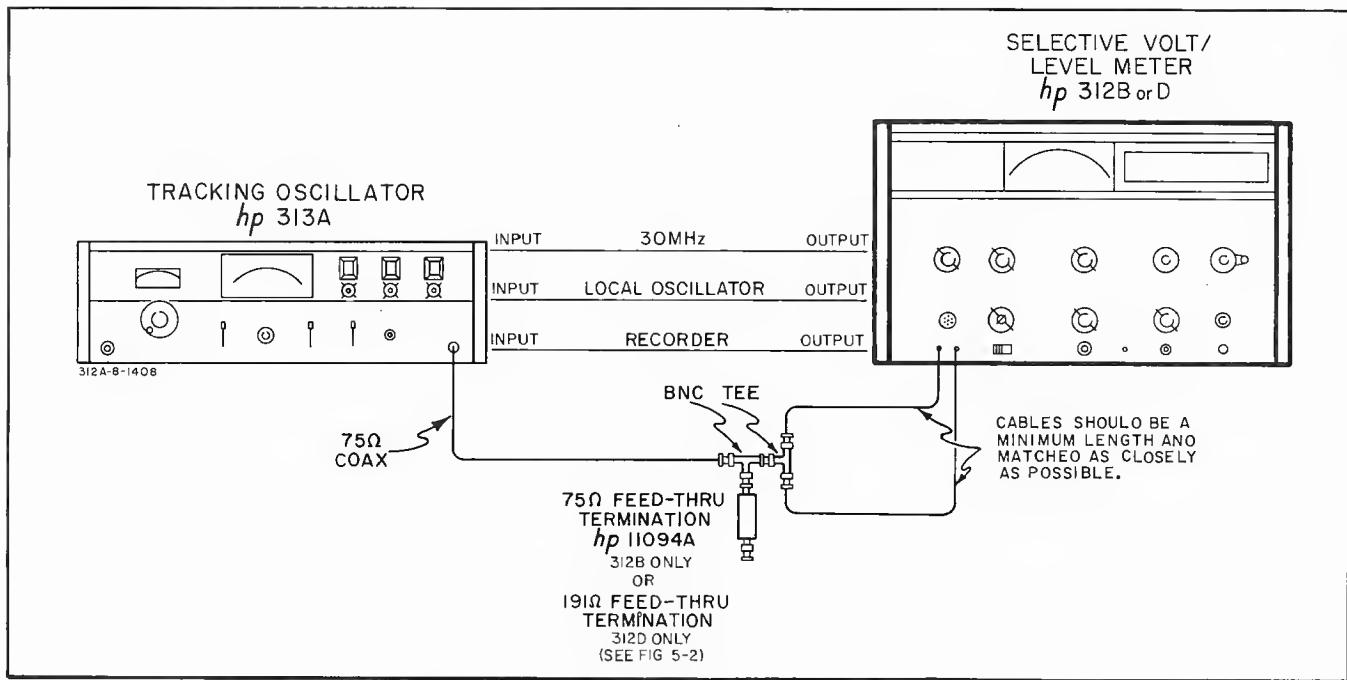

Figure 5-6. Common Mode Rejection — 312B/D.
a. Connect the 312B/D and 313A as shown in Figure 5-6. On the 312D, use WECO-to-BNC adapters (-hp- Part No. 1250-0591) and the 191 ohm feedthru termination shown in Figure 5-2.